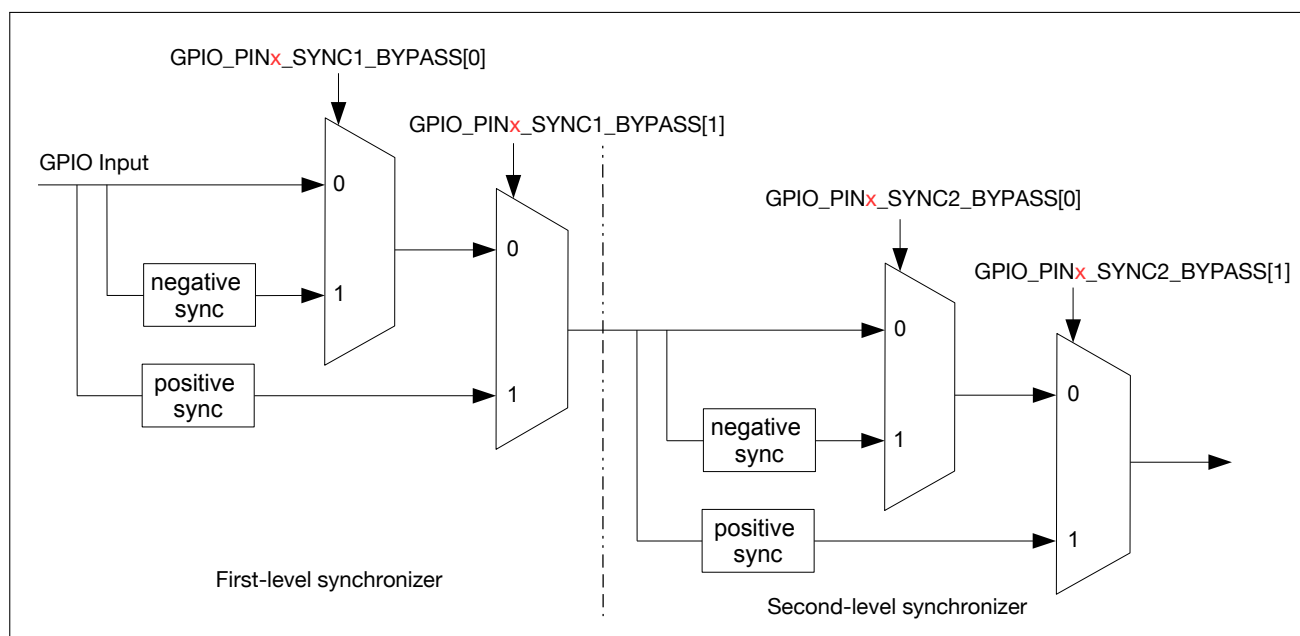

Figure 6.4-1. GPIO Input Synchronized on Rising Edge or on Falling Edge of HP IO MUX Operating Clock
Only HP GPIO matrix supports this signal synchronization function. Figure 6.4-1 shows the functionality of GPIO SYNC. In the figure, negative sync and positive sync mean GPIO input is synchronized on falling edge and on rising edge of HP IO MUX operating clock respectively.
The synchronization function is disabled by default by the synchronizer. But when an asynchronous peripheral signal is connected to the pin, the signal should be synchronized by the two-level synchronizer (i.e., the first-level synchronizer and the second-level synchronizer as shown in Figure 6.4-1) to lower the probability of causing metastability.
- Set `GPIO_PIN $x$ _SYNC1_BYPASS` to enable input signal synchronized on rising edge or on falling edge in the first-level synchronization, see Figure 6.4-1.
- Set `GPIO_PIN $x$ _SYNC2_BYPASS` to enable input signal synchronized on rising edge or on falling edge in the second-level synchronization, see Figure 6.4-1.